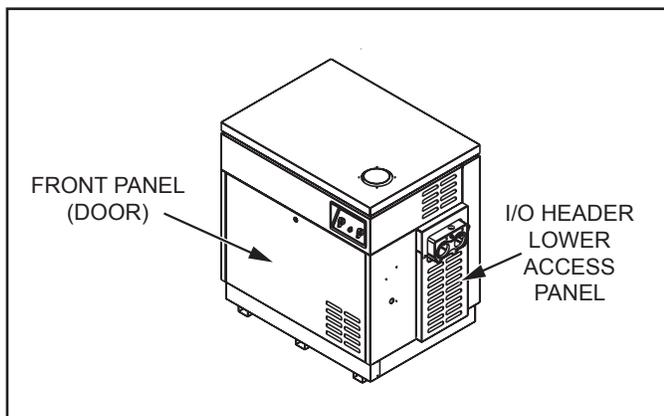

Fig. 1 Hi-E2 Door and Access Panel
3. Remove the front panel of the heater (see Fig. 1).
4. Remove the four screws holding the lower access panel in place, under the header on the water connection side of the heater. Remove the panel (see Fig. 1).